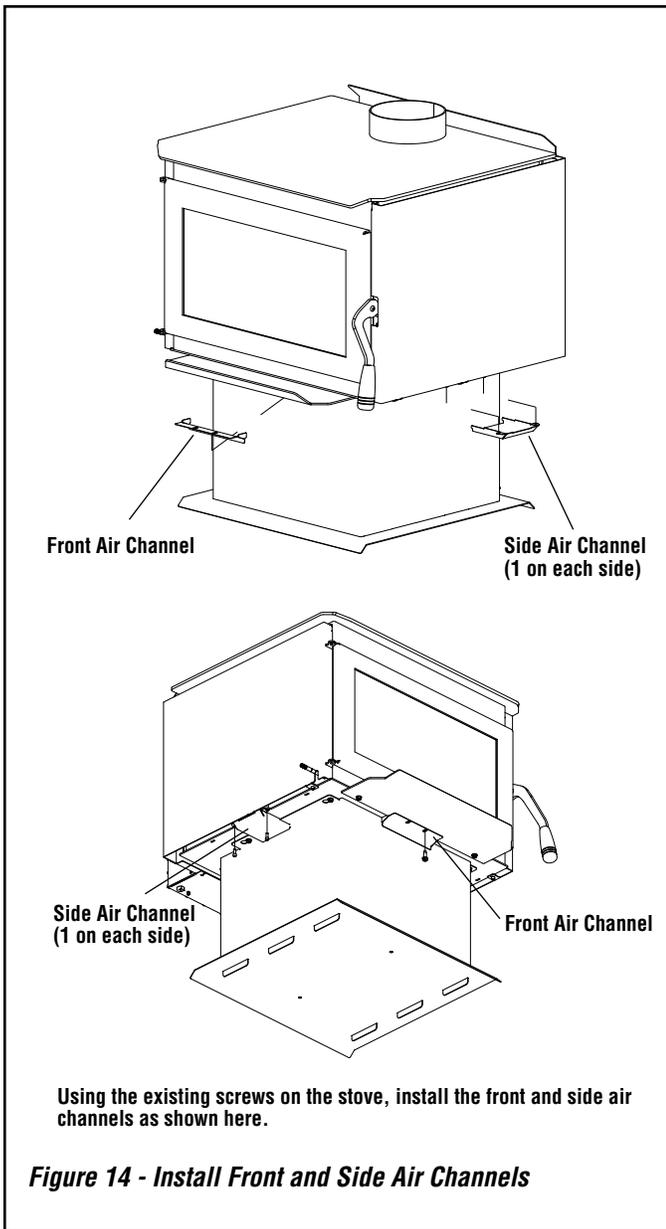

Figure 14 - Install Front and Side Air Channels
5. **Install Front and Side Air Channels** - Install the front and side air channels per the instructions in *Figure 14* on *Page 13*.